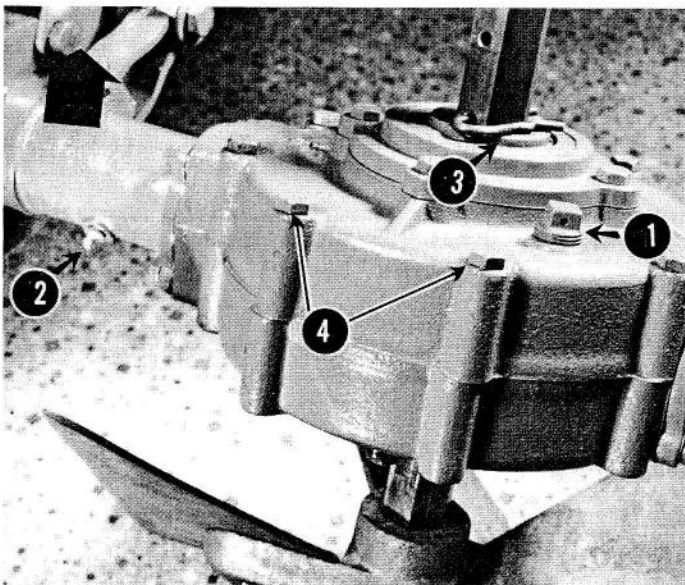

Figure 20
The Rotary Plow is attached to the Tractor by two Nuts and two Bolts. One Bolt and one Nut must be used to attach the Angle Adjusting Bracket, upper left in Figure 20.
Add oil by removing the Oil Filler Plug, (1 in Figure 20).
Use an occasional shot of General Purpose Grease in the swivel casting grease fitting, (2 in Figure 20).
Use the pin or clip, (3 in Figure 20), in the Hex Shaft for initial Cutting depth adjustment. The higher on the Shaft the Pin is inserted, the lower the depth of cut and vice versa. Ordinarily, the Pin is inserted in one of the top holes for plowing and in the bottom hole for transporting.
The Dirt Shield is attached to the top of the Gear Housing by removing the bolts, (4 in Figure 20), inserting them through the Shield, and replacing in the Gear Housing. You can use the Dirt Shield to direct the throw of the dirt, by bending it up or down.
1. Leave the Plow Angle Adjusting Assembly (upper left in Figure 20) attached.